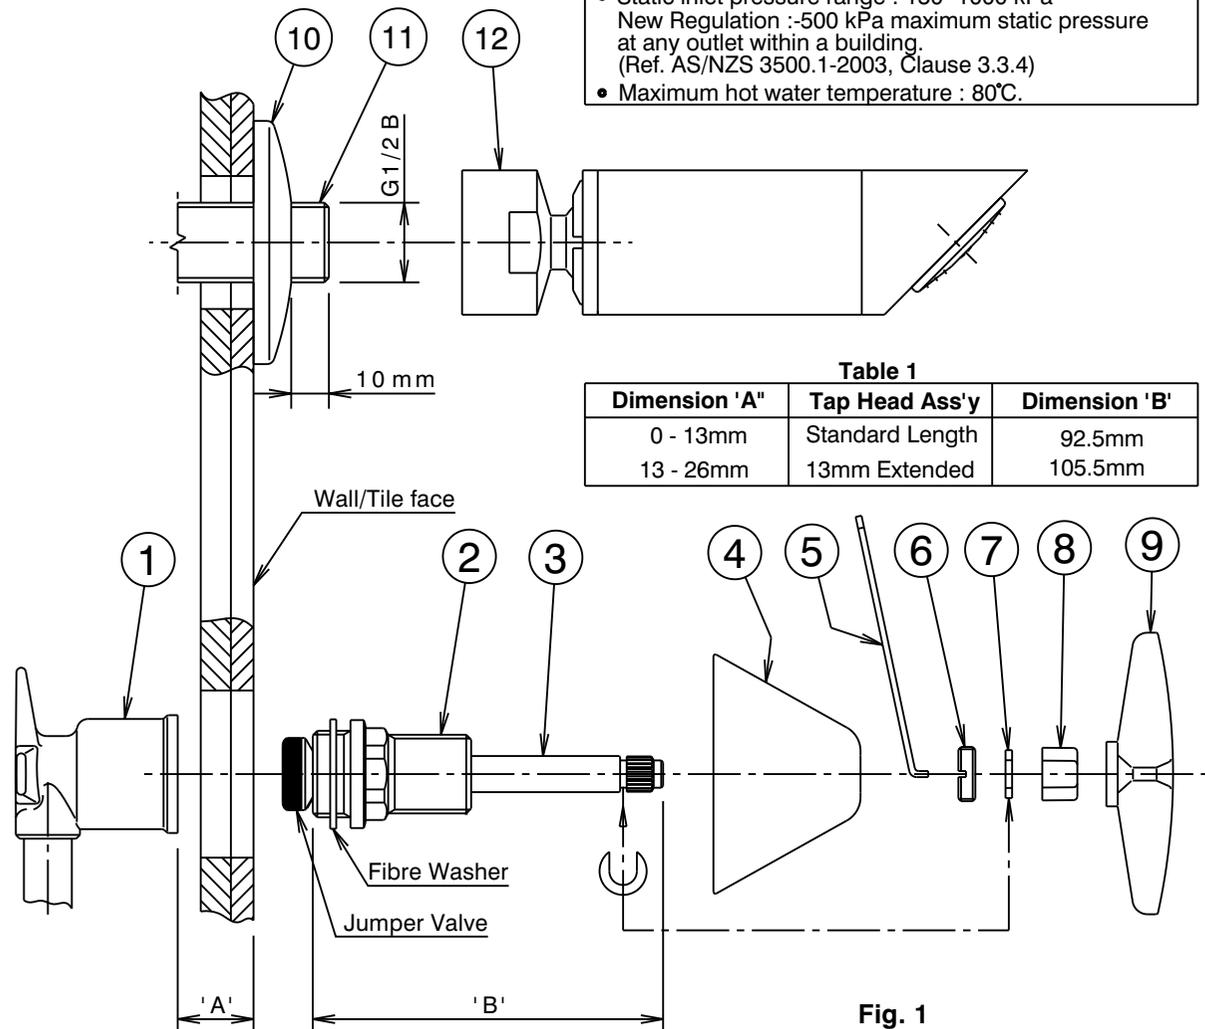

Fig. 1
- 1) Check in-wall depth (dimension 'A' in Fig. 1) to ensure correct length spindle (3) has been selected (see Table 1).
- 2) Check seats in recess tap bodies (1) are in good condition and free of foreign materials. Reseat if required.
- 3) Fully open tap spindle (3) in tap head assembly (2). Ensure fibre washer and jumper valve are in position as shown.
- 4) Screw tap head assembly (2) into recess tap body (1) by hand and tighten using suitable tube spanner.
- 5) Screw on wall flange (4) and tighten fully by hand against wall/tile face taking care not to damage the decorative finish.
- ii) Place retaining nut (6) over spindle (3), with slot facing flange (4).
- iii) Place retaining clip (7) into groove at bottom of spline in spindle (3).
- iv) Ensure handle insert (8) is in position in handle (9). Fit handle (9) to spindle (3), position to suit. Push handle (9) firmly down until it bottoms internally.
- v) Screw retaining nut (6) into handle and tighten using spanner (5) provided.
- 7) Check that threaded nipple (11) is the correct length, as shown (Fig. 1). Cut to length if required ensuring end face is square. Apply thread tape to the thread.